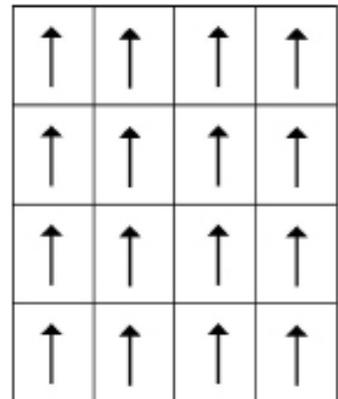

Figure 3 (not recommended)
- This gives a more uniform result than laying with a continuous joint, which is not recommended in any case (see figure 3). Please note that tiles with a stripe pattern will not line up if laid in the same direction (as in Figure 3).